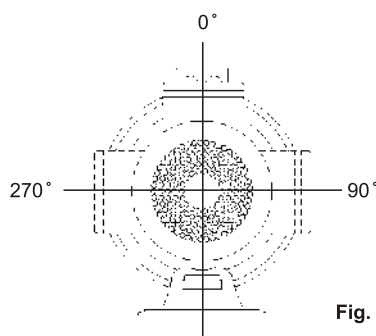

Fig. 2
- **Position of terminal box (Fig.2)**